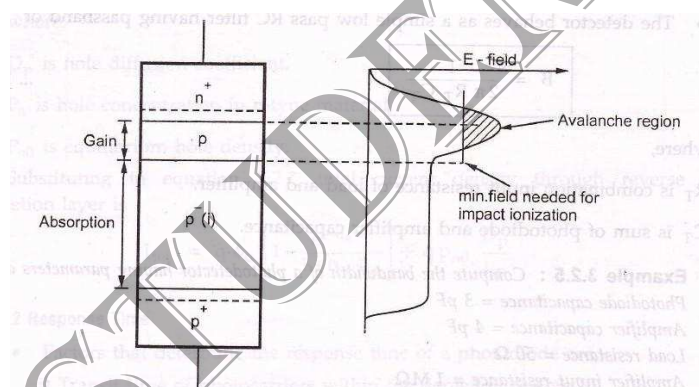

Fig. 3.2.5 APD schematic and variation of E-field across diode
- x Fig. 3.2.5 shows the schematic structure of an APD. By virtue of the doping concentration and physical construction of the n+ p junction, the electric field is high enough to cause impact ionization. Under normal operating bias, the I-layer (the p- region) is completely depleted. This is known as **reach through** condition, hence APDs are also known as **reach through APD** or **RAPDs**.]